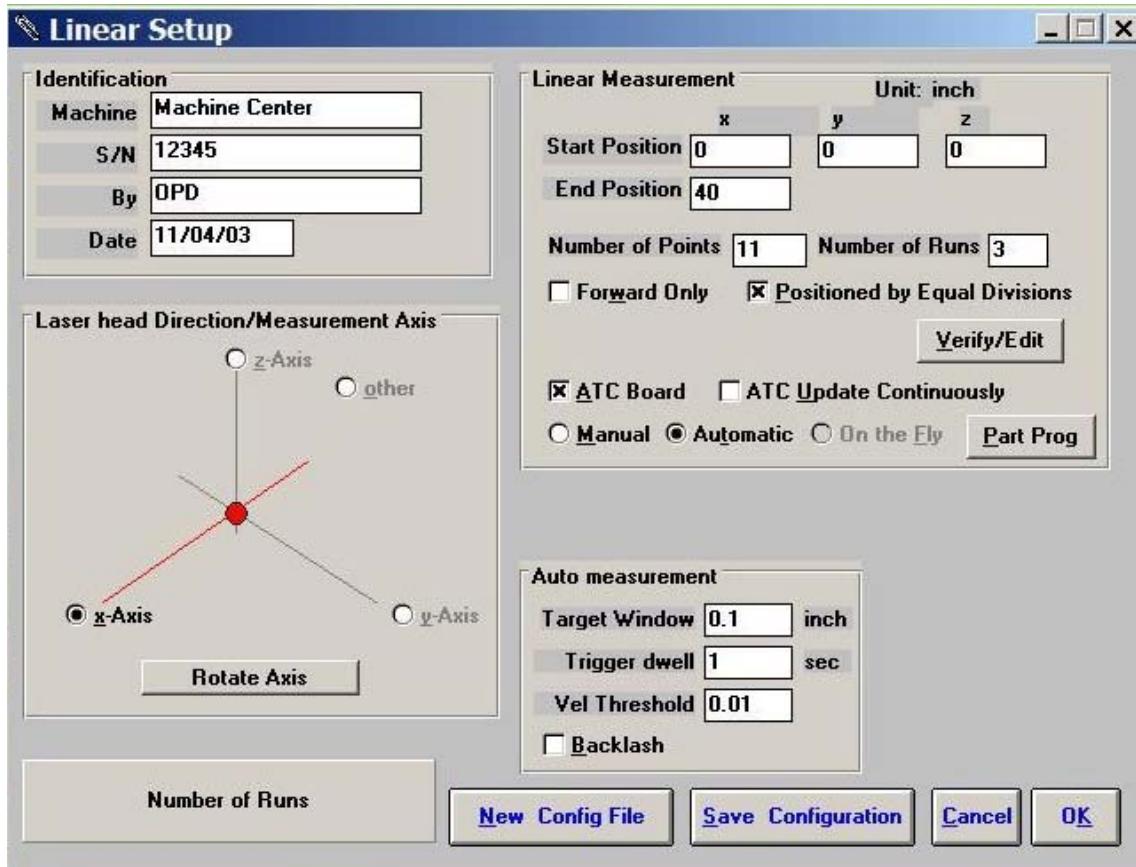

Fig. 4-2 Linear Measurement Setup Screen
4.2 Linear Measurement Setup Screen (Fig. 4-2)
Linear Measurement Setup Screen (See Fig. 4-2):